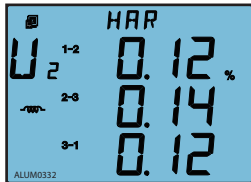

Fig.3-34 2nd harmonic content of line to line voltage
**Note:** When voltage wiring of the meter is set to 2LL or 3LL, line to line voltage harmonic contents will be display instead (as shown in Fig. 3-34).
As shown in Fig.3-34,  $U12\_Hr2=0.12\%$ ,  $U23\_Hr2=0.14\%$  ,  $U31\_Hr2=0.12\%$ .